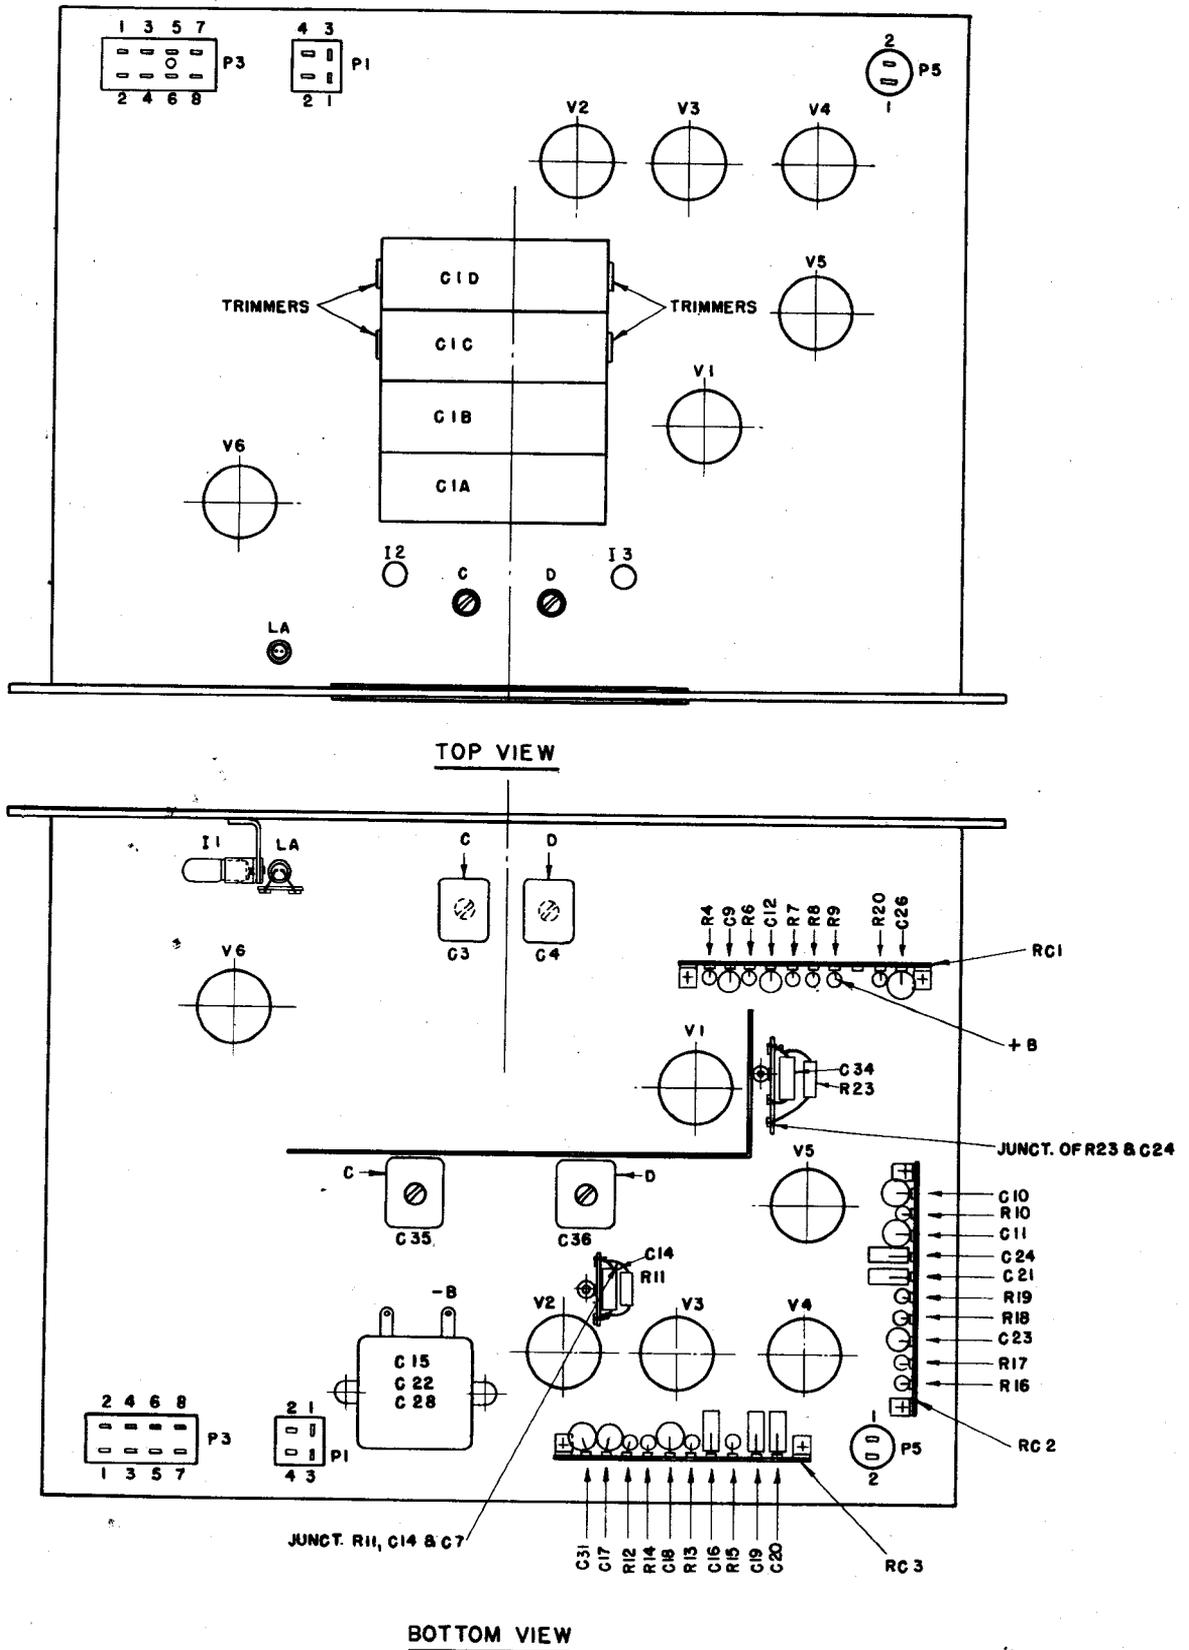

Figure 9—Radio Receiver 128-AY, Chassis Location Diagram.
15. **Resistance Measurements.**—*a.* In the event that the trouble cannot be located by means of any of the preceding tests, it will be necessary to analyze the receiver by means of a series of resistance measurements. The resistance measurements are divided into three groups which are given in tables 6, 7, and 8. In table 6 the resistances from the tube socket terminals to the chassis of the receiver are given. Table 7 gives the resistances of the r-f coils, and table 8 gives various point-to-point resistances. A Tube Socket Location Diagram is shown in figure 8 and a Chassis Location Diagram in figure 9.